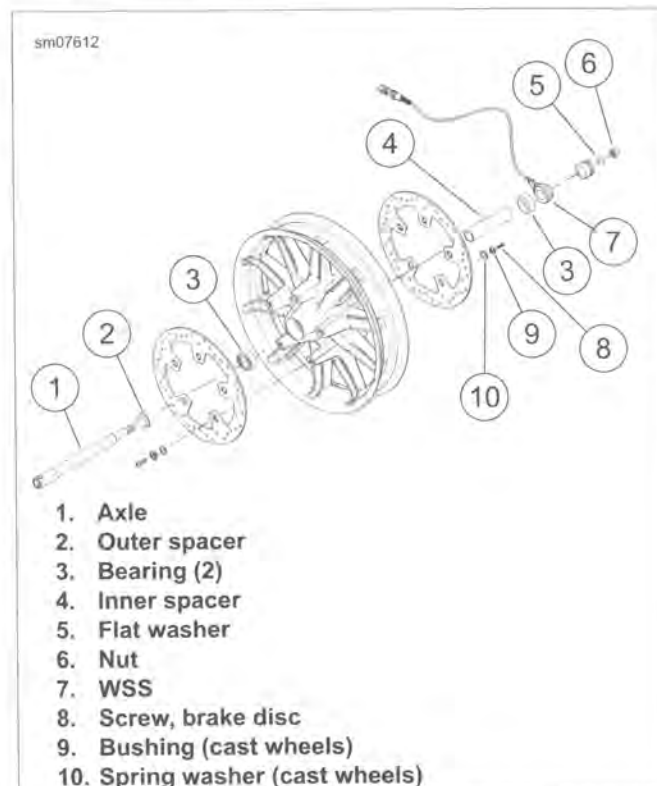

Figure 2-4. Front Wheel (typical)
6. See Figure 2-4. Remove the axle nut (6) and flat washer (5).
1. See Figure 2-4. If removed, install brake discs using **new** screws (8) (metric), bushings and spring washers (9, 10) (cast wheels only). Tighten in a crosswise pattern to 16-24 ft-lbs (21.7-32.5 Nm).
ABS equipped: See Figure 2-4. Verify that WSS cable is installed in bracket and that clip is secure. Clip cannot be installed once mounting screws are started.